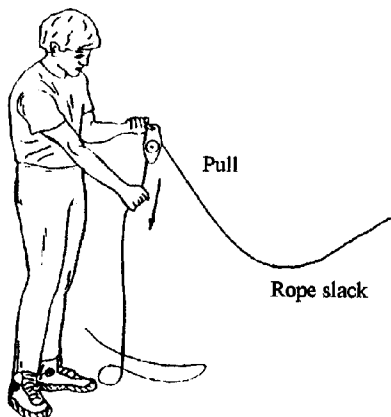

Figure 6: Releasing the Silent Partner
6) To release the Silent Partner, first remove the tension in the rope, then pull the tail end as shown in Figure 6. The Silent Partner should now feed freely again.